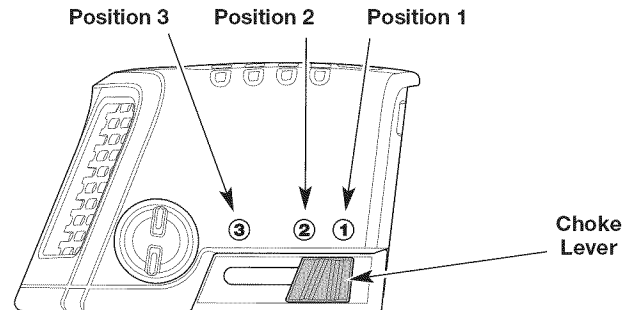

Fig. 11
4. Move the choke lever to **Position 1** (Fig. 11).
7. Continue to squeeze the throttle control. Move the choke lever to **Position 2** (Fig. 11).
10. Continue to squeeze the throttle control. Move the choke lever to **Position 3** (Fig. 11) and continue warming the engine for an additional 60 seconds. The unit may be used during this time.
IF... the engine hesitates, return the choke lever to **Position 2** (Fig. 11) and continue the warm-up.
8. Continue to squeeze the throttle control. Move the choke lever to **Position 2** (Fig. 11).
12. Continue to squeeze the throttle control. Move the choke lever to **Position 3** (Fig. 11) and continue warming the engine for an additional 60 seconds. The unit may be used during this time.